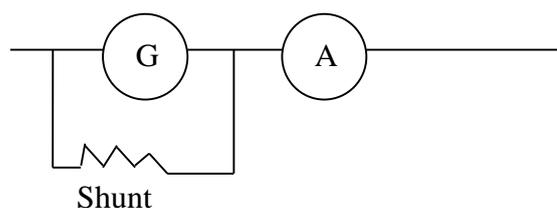

Figure 3
- (i) Set up the electrical circuit as shown in figure 3.